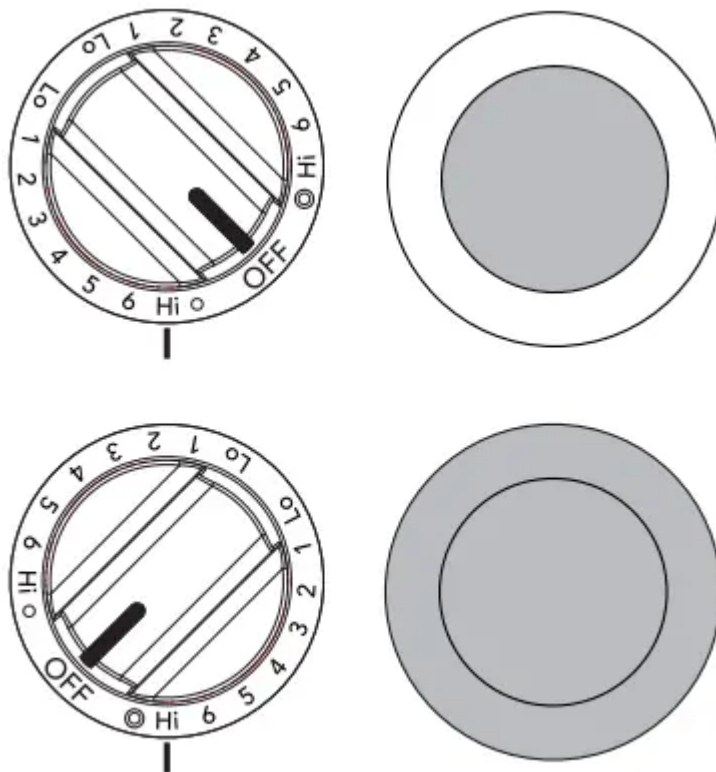

Figure 13: Dual element knob settings
2. Push in and turn the surface control knob clockwise to begin heating both the inner and outer elements. If only the inner element is needed for smaller cookware, push in and turn the knob counter-clockwise (see Figure 13)